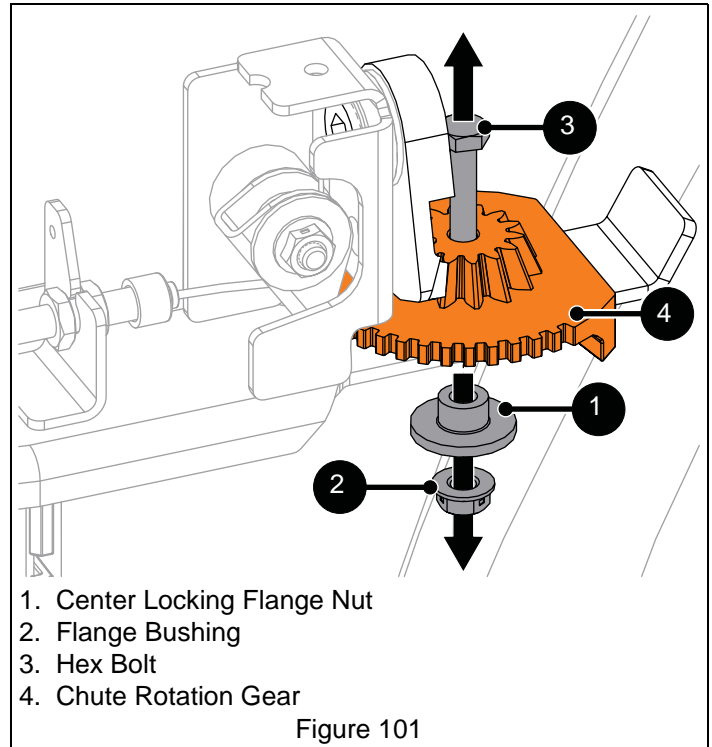

Figure 101
6. Remove hardware retaining chute rotation gear to pedestal plate and remove gear. See Figure 101.